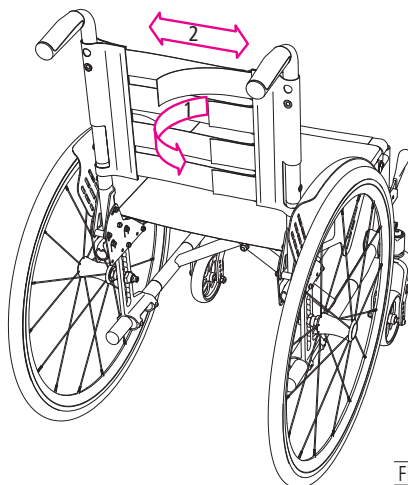

Fig. 9
3. Now unfasten the straps (1, Fig. 9) and adjust the length (2, Fig. 9) until you have found a comfortable sitting position.